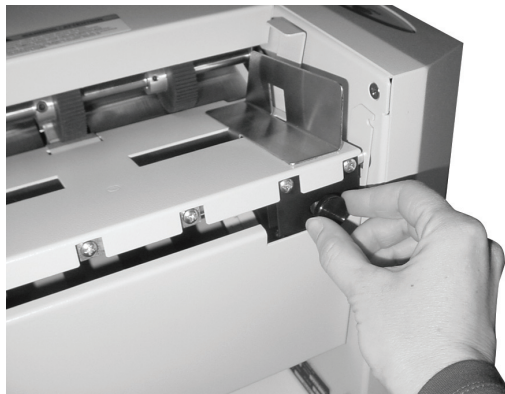

Figure 9
1. If paper pulls left or right, adjust the skew adjuster. To adjust the skew, turn the skew adjuster (figure 9) left or right until the paper is feeding correctly.